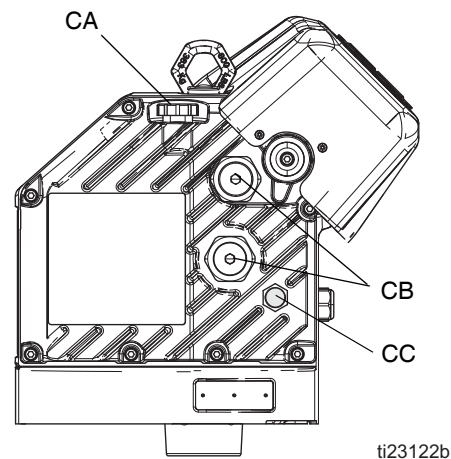

FIG. 13: Sight Glass and Oil Fill Cap
2. Place a minimum 2 quart (1.9 liter) container under the oil drain port. Remove the oil drain plug (15). Allow all oil to drain from the driver.
3. Reinstall the oil drain plug (15). Torque to 18-23 ft-lb (25-30 N•m).
4. Open the fill cap (CA) and add Graco Part 16W645 ISO 220 silicone-free synthetic EP gear oil. Check the oil level in the sight glass (CC). (See FIG. 13.) Fill until the oil level is near the halfway point of the sight glass. The oil capacity is approximately 1.0 - 1.2 quarts (0.9 - 1.1 liters). **Do not overfill.**
Check the oil level in the sight glass (CC). (See FIG. 13.) The oil level should be near the halfway point of the sight glass when the driver is not running. If the oil is low, open the fill cap (CA) and add Graco Part No. 16W645 ISO 220 silicone-free synthetic EP gear oil. See FIG. 13.
See FIG. 13. The bearing pre-loads (CB) are factory set and are not user adjustable. Do not adjust the bearing pre-loads.